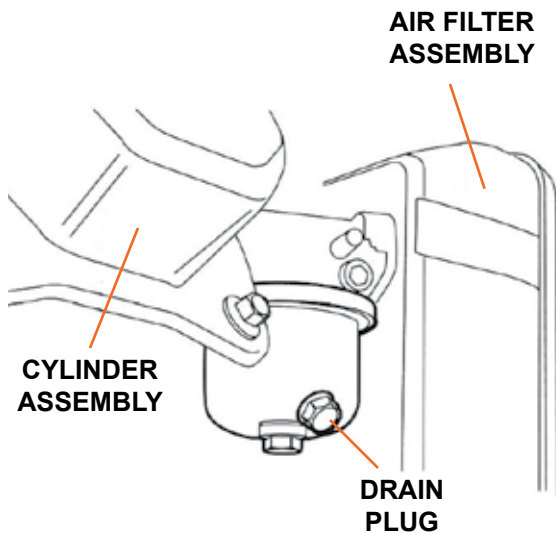

Figure 8
2. When the generator is to be stored for longer than 20 days, prepare the engine for storage by emptying the fuel tank and draining all fuel lines (see Figure 8). Clean out area around spark plug and remove. Pour one tablespoon of engine oil into the cylinder through the spark plug hole. Reinstall the spark plug, but leave the spark plug wire disconnected. Pull recoil starter handle to distribute oil in the cylinder. Stop after one or two revolutions when you feel the piston start the compression stroke (when you start to feel resistance).